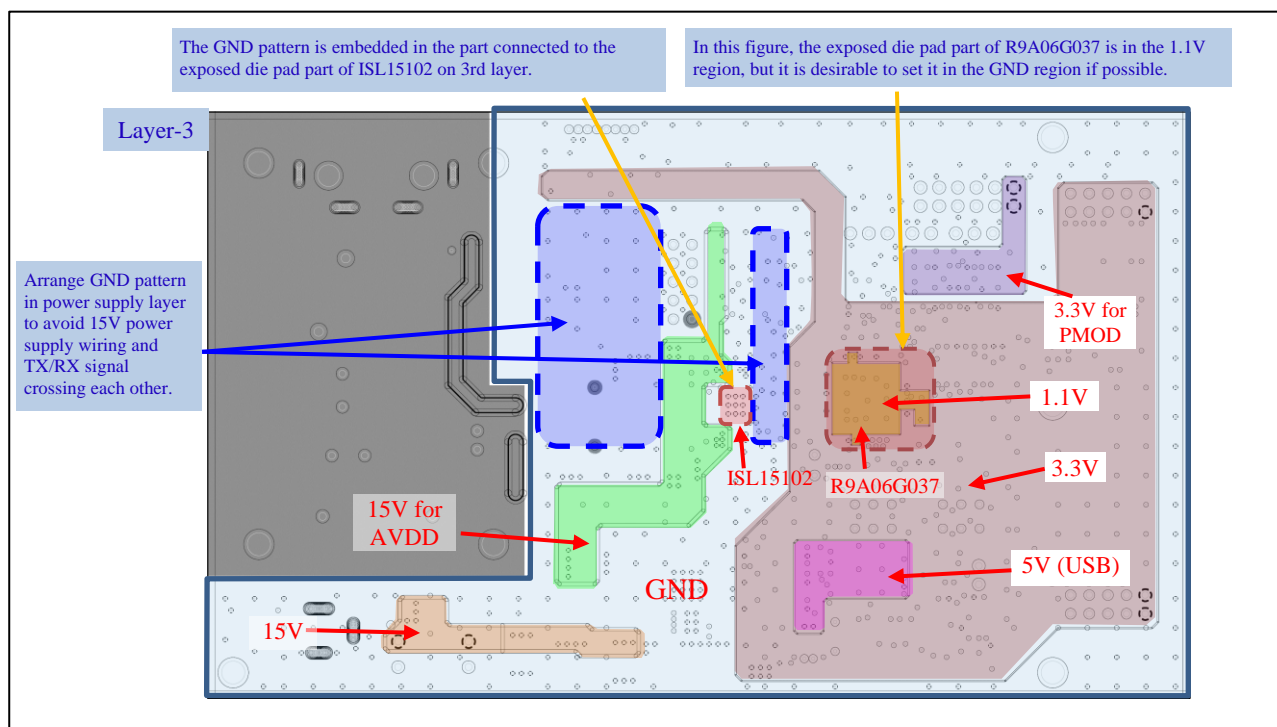

Figure 3-5 Example of 3rd Layer (Power Supply Layer) in Figure 3-1
- It is recommended to use the GND pattern in the area where the TX/RX signals or TX/RX parts overlap as much as possible for the power supply layer (3rd Layer). (Figure 3-5 shows an example of a power supply layer.)
- It is recommended to arrange 1.1V/3.3V/15V power regions used in the PLC board for the power supply layer, and arrange the GND pattern in the area where crossing with the power region should be avoided. Figure 3-5 show examples of the power supply layer.